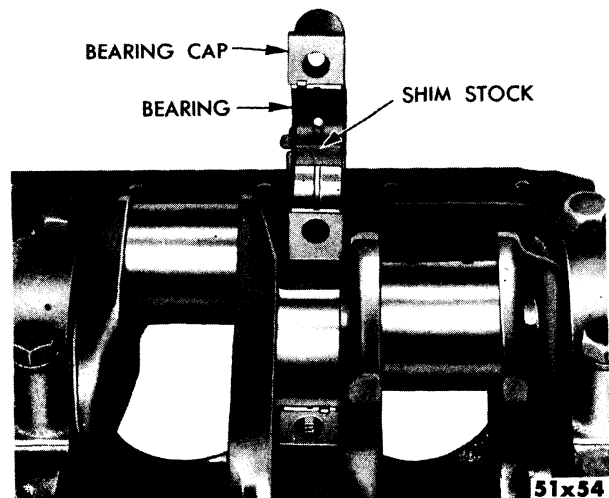

Fig. 102—Checking Main Bearing Clearance With Shim Stock
- (1) Install the bearing shell in the cap. Start at the center main bearing; place a piece of oiled .001 inch feeler stock ($\frac{1}{2}$ inch wide and 1 inch long) between bearing and crankshaft journal, as shown in Figure 102. Install the bolts and lockwashers. Tighten bearing cap bolts to 85 foot-pounds torque.